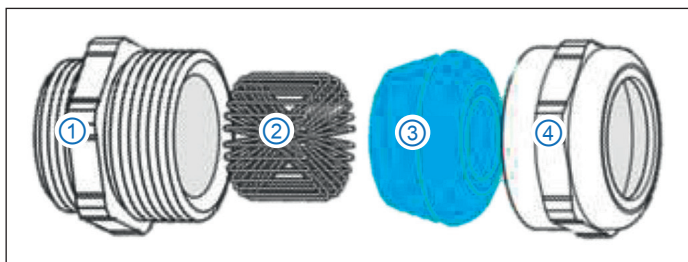

Fig. 8-1: Components of a cable gland with triangular spring 'TRI' contacting the braided shield
The triangular springs (Fig. 8-1, ③) are needed to establish contact between the braided shield of the HV power cable and the module housing. If no contact between braided shield and housing is required, these springs can be omitted.